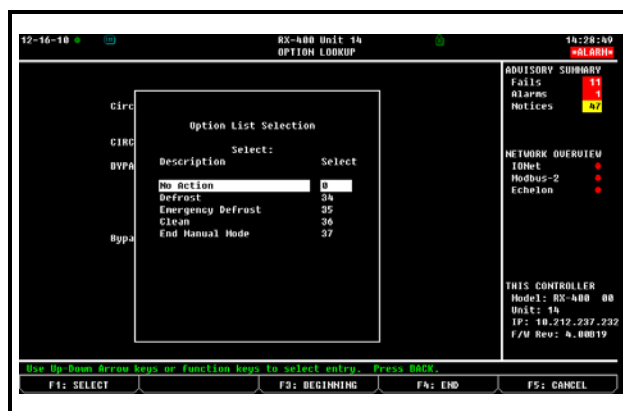

Figure 3-7 - Option List Selection Screen
5. Press  **LOOK UP**. The Option List Selection screen (see **Figure 3-7**) will give you five choices